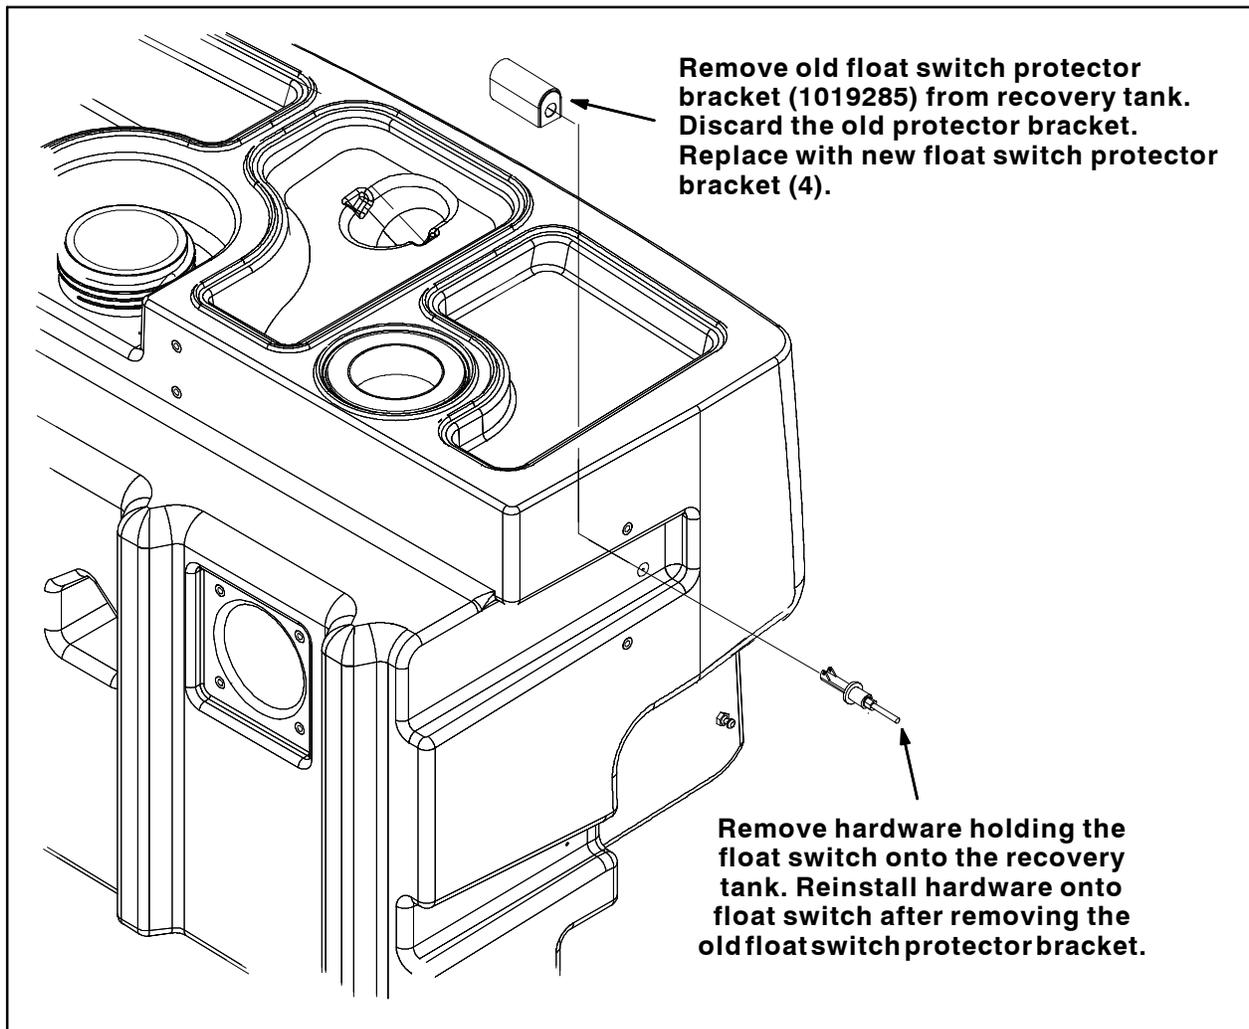

FIG. 3
1. Remove the hardware holding the float switch and float switch protector bracket to the recovery tank. Set the hardware aside. Refer to Fig. 3.
2. Remove the existing float switch protector bracket (part number 1019285) from the recovery tank. Discard the protector bracket. Refer to Fig. 3.
3. Reinstall the hardware onto the float switch. Refer to Fig. 3.